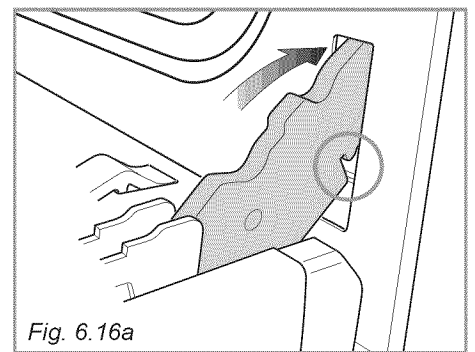

Fig. 6.16a
- Insert the hinge tongues into the slots, making sure that the groove drops into place as shown in the fig. 6.16a.